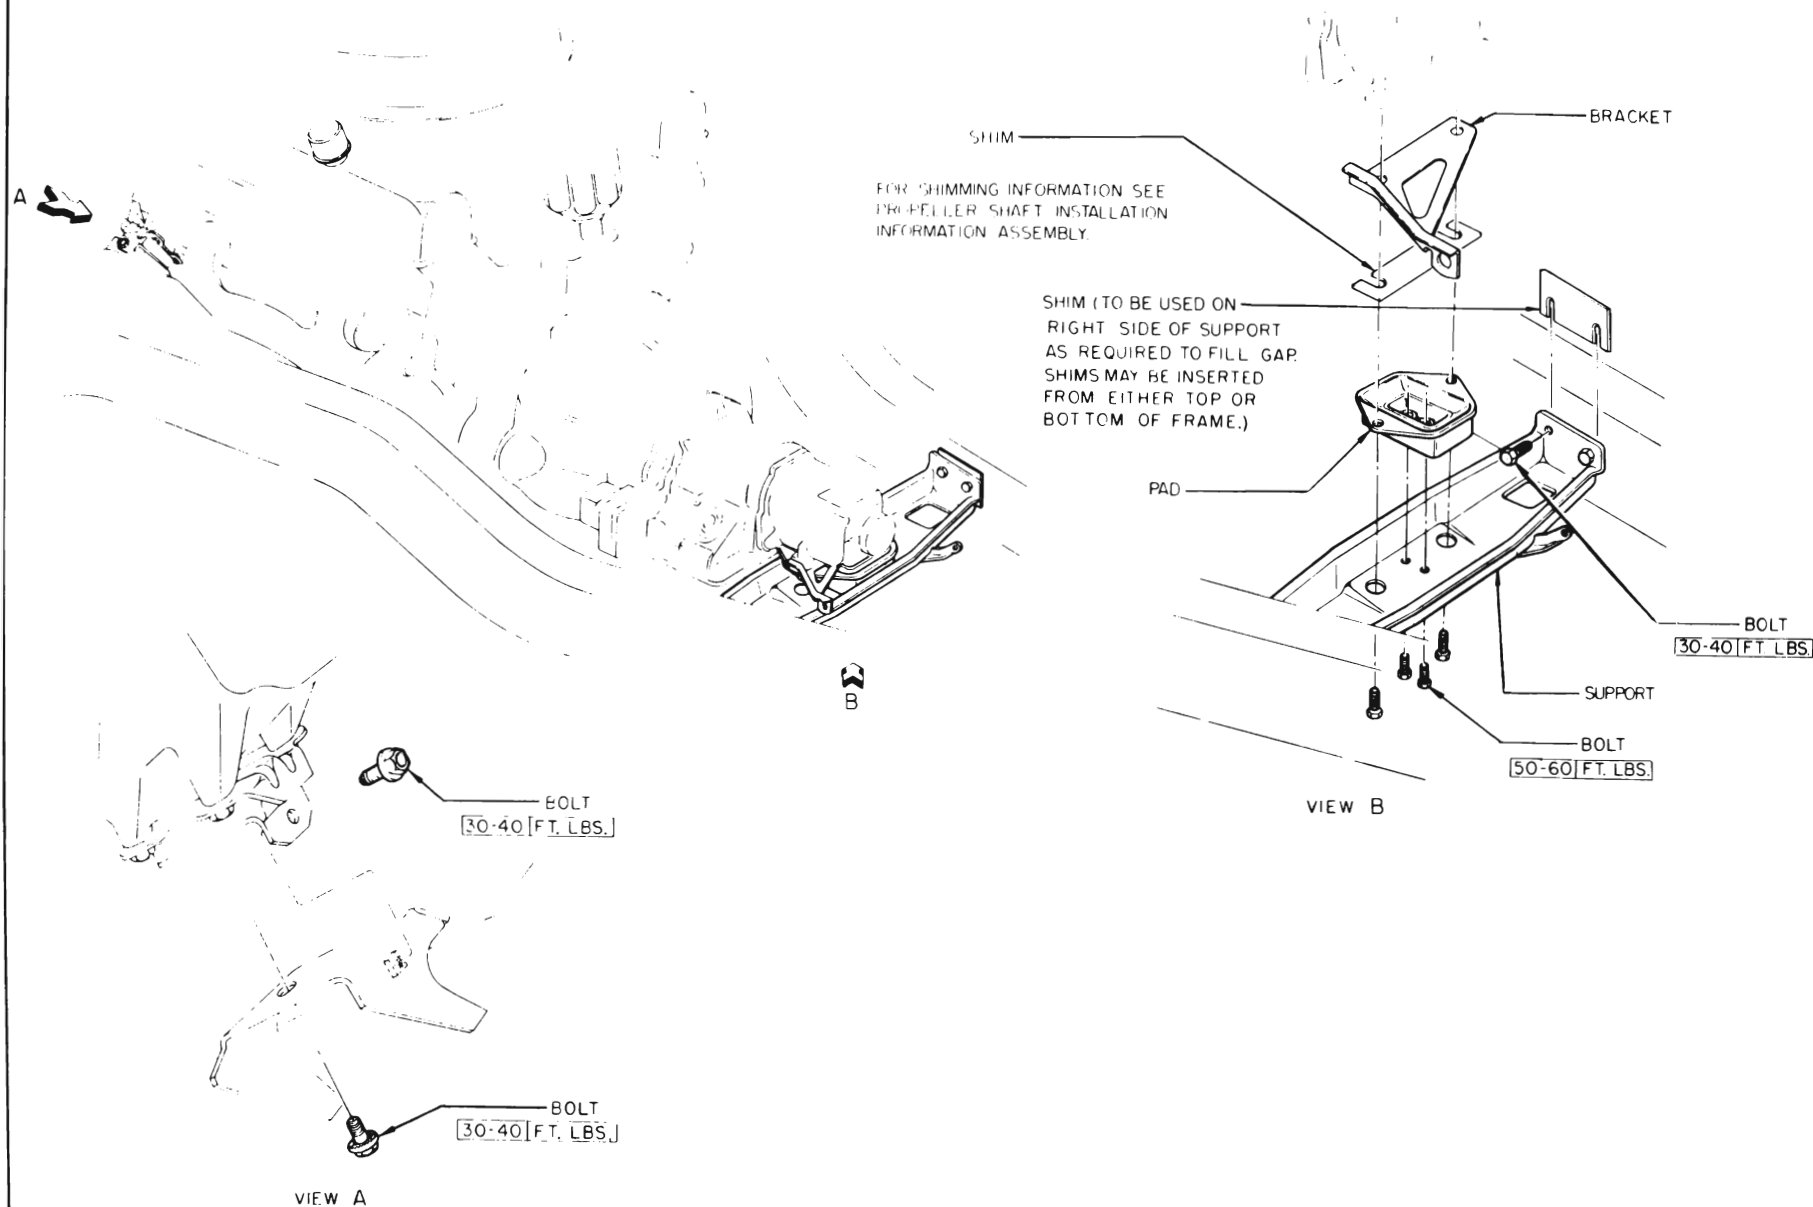

Figure 2-44—Engine and Transmission Mounts (44-46 & 4800 Series)
3. Make sure that transmission support to frame shims are in original position and tighten all support to frame rail, support to mount, and mount to rear bearing retainer bolts. See Figure 2-44.